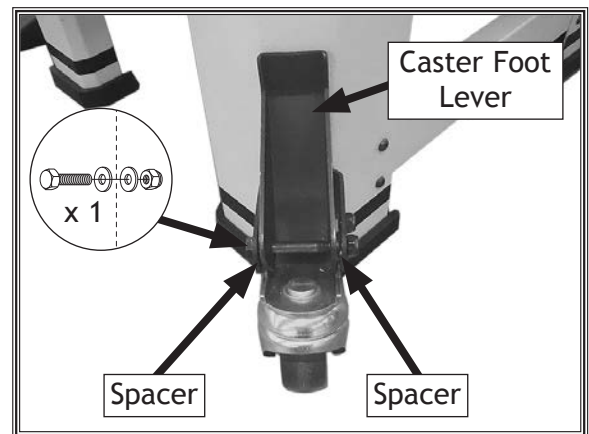

Figure 14. Caster foot lever (1 of 3) installed on front right support bracket.
4. Install caster foot levers onto support brackets and mounting bracket, each using (1) M8-1.25 X 65 hex bolt, (2) spacers, and (1) M8-1.25 lock nut (see **Figure 14**).